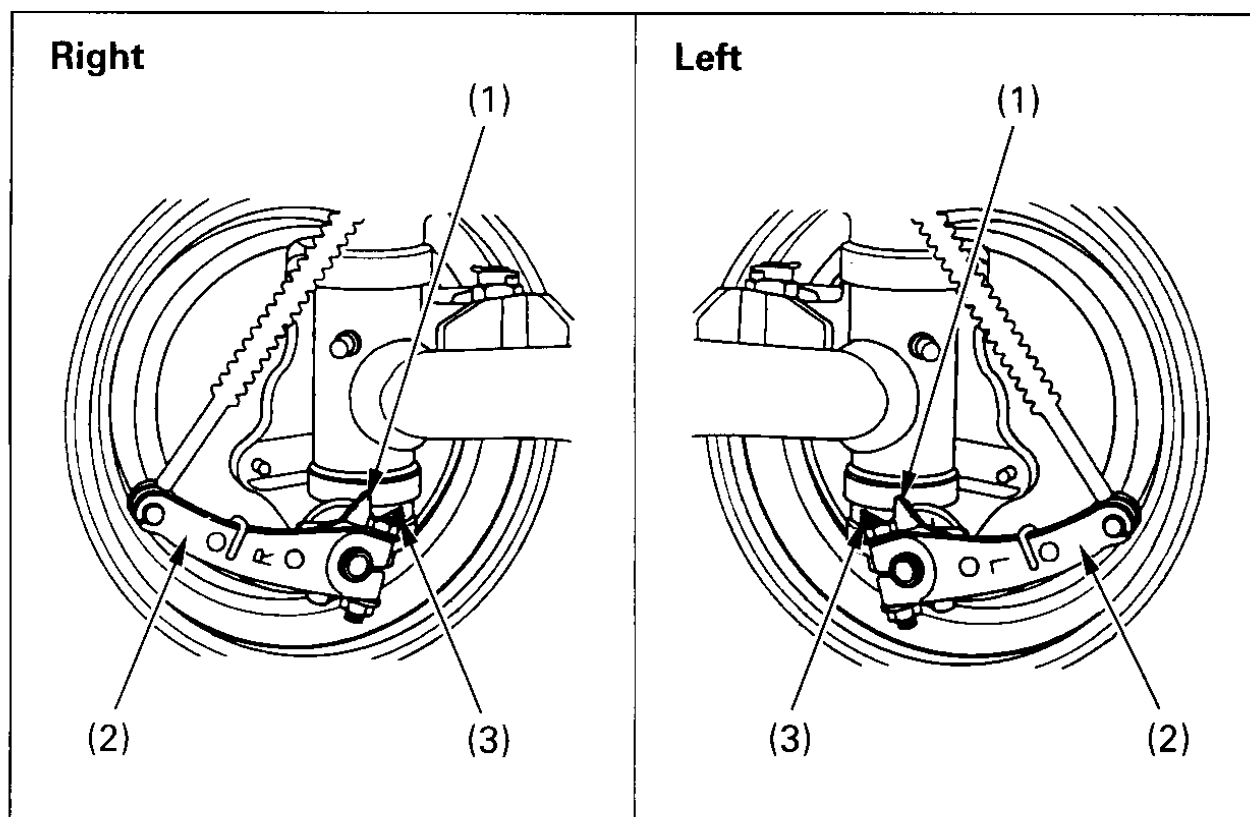

Fig. 4-19
When the brake is applied, an arrow (1) attached to the brake arm (2) moves toward a reference mark (3) on the brake panel (see Fig. 4-19).